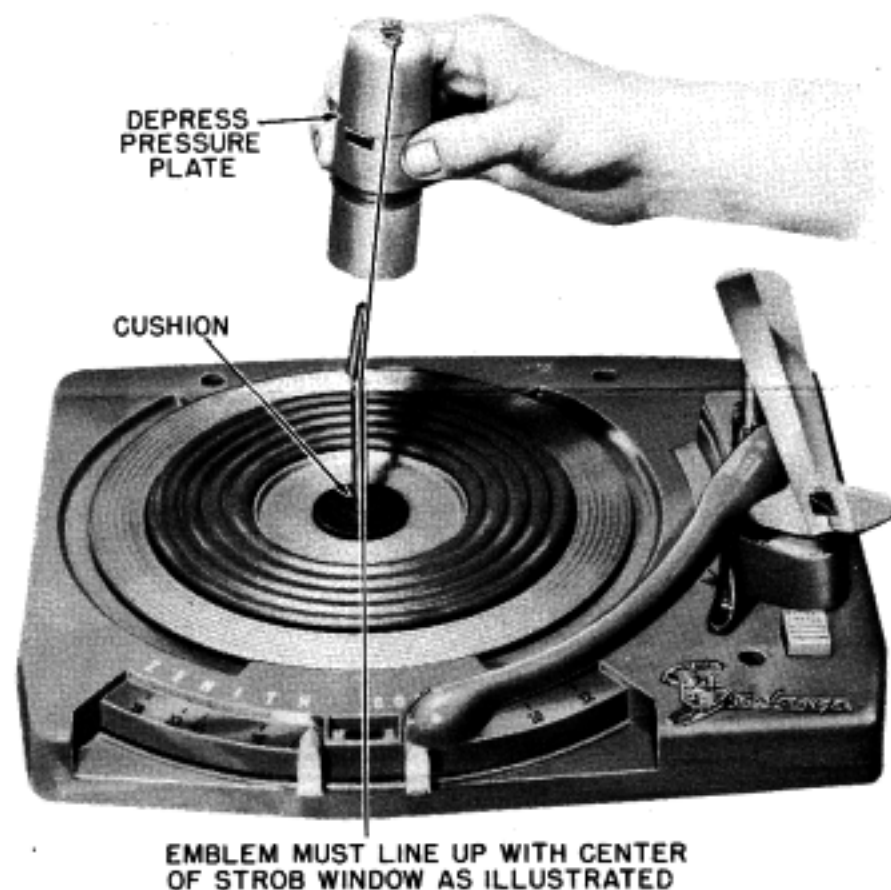

Figure 2. Placing 45 R.P.M. spindle on changer.
1. Place the 45 R.P.M. spindle cushion over the small spindle and drop it down to the turntable (See Fig. 2).
2. Completely depress the pressure plate with your index finger and thread the 45 R.P.M. spindle over the small diameter spindle on the record changer (See Figs. 2 and 3).
3. It is extremely important that the emblem line up with the center of the strob window as illustrated in (Figs. 2 and 3). If the emblem is not lined up properly, the 45 R.P.M. spindle will not change records.